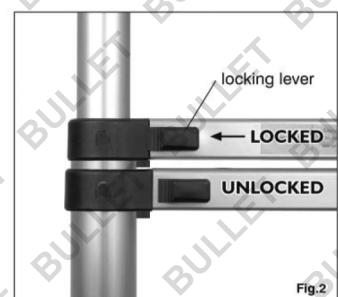

Fig.2
- A lever that is close to the side rail indicates the mechanism is locked. A lever away from the side rail indicates that it is NOT locked (see Fig.2).